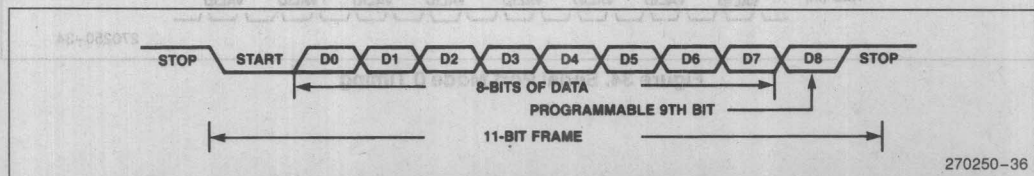

Figure 36. Serial Port Frame Modes 2 and 3
Mode 2 is the asynchronous 9th bit recognition mode. This mode is commonly used with Mode 3 for multiprocessor communications. Figure 36 shows the data frame used in this mode. It consists of a start bit (0), 9 data bits (LSB first), and a stop bit (1). When transmitting, the 9th bit can be set to a one by setting the TB8 bit in the control register before writing to SBUF (tx). The TB8 bit is cleared on every transmission, so it must be set prior to writing to SBUF (tx) each time it is desired. During reception, the serial port interrupt and the Receive Interrupt (RI) bit will not be set unless the 9th bit being received is set. This provides an easy way to have selective reception on a data link. Parity cannot be enabled in this mode.